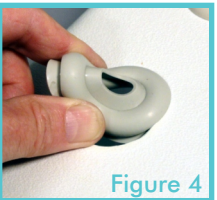

Figure 4
8. To replace a grommet, squeeze it on opposite sides and fit the slot in the grommet over the edge of the hole (fig.4) Work your way around the hole.